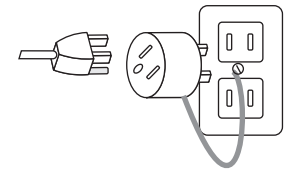

Figure 2
Before using this floor machine, make sure a properly grounded, 3-hole electrical outlet is available. If not, as in some older facilities, use an adapter for connecting a 3-prong plug to a 2-prong receptacle (Figure 2) to ground to the outlet chassis.
**Never assume that all 3-hole outlets are properly grounded. Never assume that an adaptor connection (as in Figure 2) is properly grounded.** Check the outlet with a **ground fault interrupter device** which quickly indicates if a ground is connected. Correct a faulty grounding before proceeding.